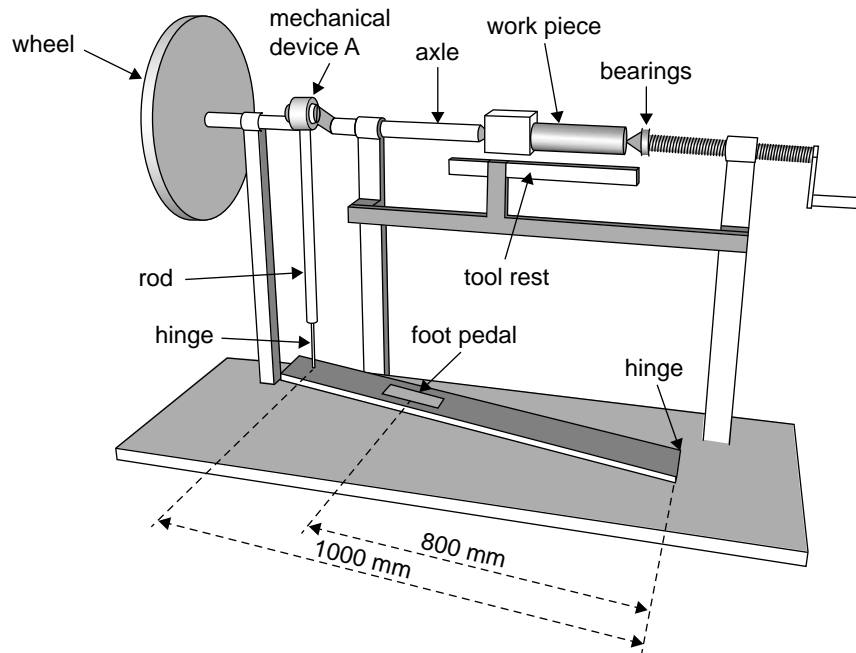

Figure 2
Name the device labelled 'mechanical device A' in Figure 2.
- a. Calculate the maximum force on the rod if the force of a foot on the pedal in Figure 2 is 100 N. Show your working.
- b. Calculate the mechanical advantage of the pedal system shown in Figure 2. Show your working.